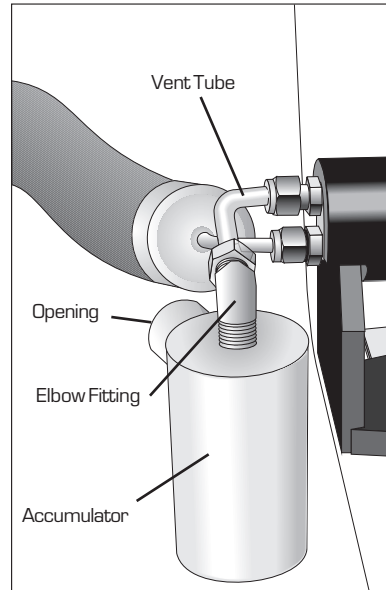

Figure 2.8
- c. Screw the accumulator onto the threaded part of the elbow fitting. You can position the opening to the accumulator as desired, it does not need to be tightly attached (see Figure 2.8).